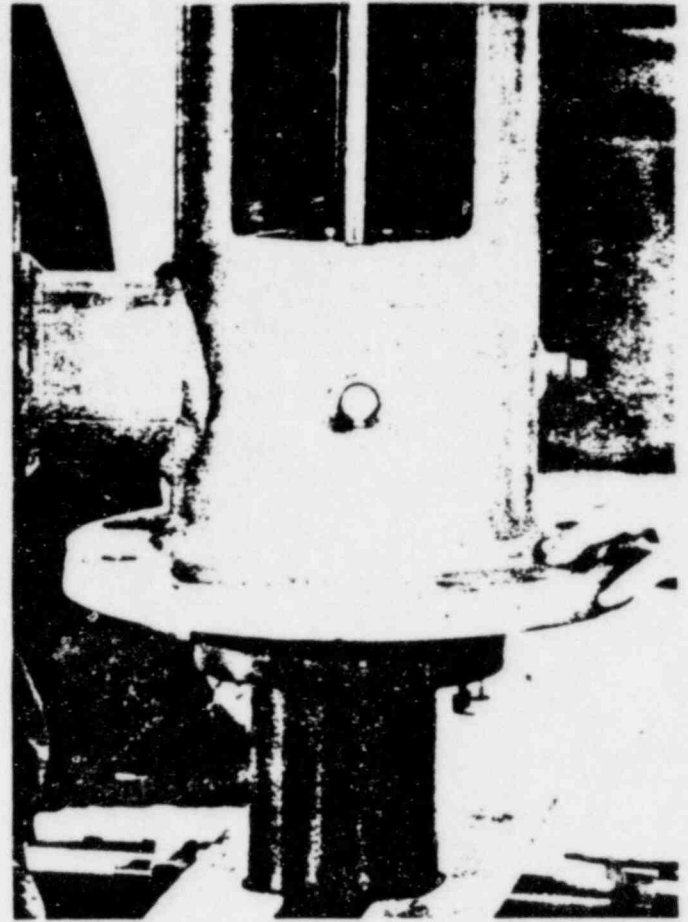

Figure 8-1. INSTALLING THE DISCHARGE HEAD
F. Orient the discharge head in the required position and lower head centering the vertical hole with the headshaft protruding above the column until the discharge head engages the bearing retainer (652) register (see figure 8-1). Install capscrews and secure discharge head to bearing retainer. Tighten capscrews gradually in diametrically opposite pairs.